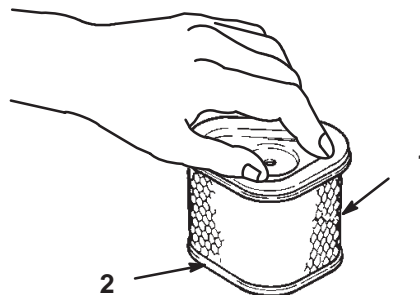

Figure 24
1. Lightly tap the element on a flat surface to remove dust and dirt (Fig. 24).